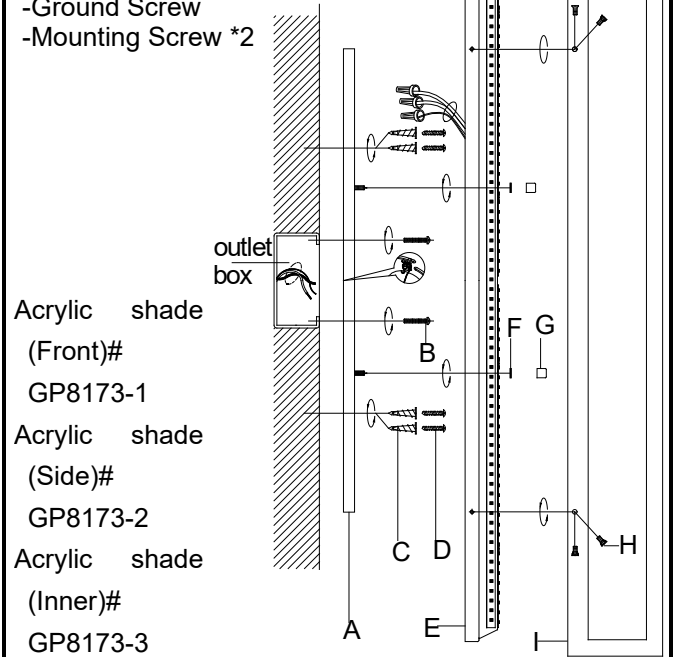

Fig. 2
CONNECTING THE WIRES (Fig. 2)
6. Connect electrical wires as shown in Fig. 2, making sure that all wire connectors are secured. If your outlet box has a ground wire (green or bare copper), connect fixture's ground wire to it. Otherwise, connect fixture's ground wire directly to mounting plate (A) using green screw provided.